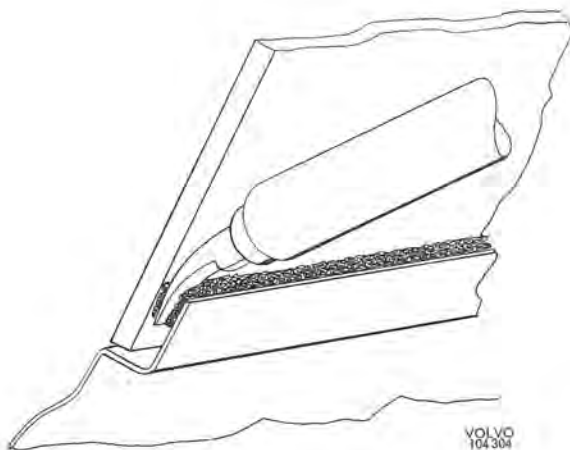

Fig. 8-28. Removing windshield
5. Cut the windshield loose with a warm soldering iron. Insert the point of the iron in between the windshield and the body, from the inside of the vehicle, see Fig. 8-28. Then draw the soldering iron all round the windshield. The windshield can now be pressed out by hand. Cut off any remaining strands with a knife.